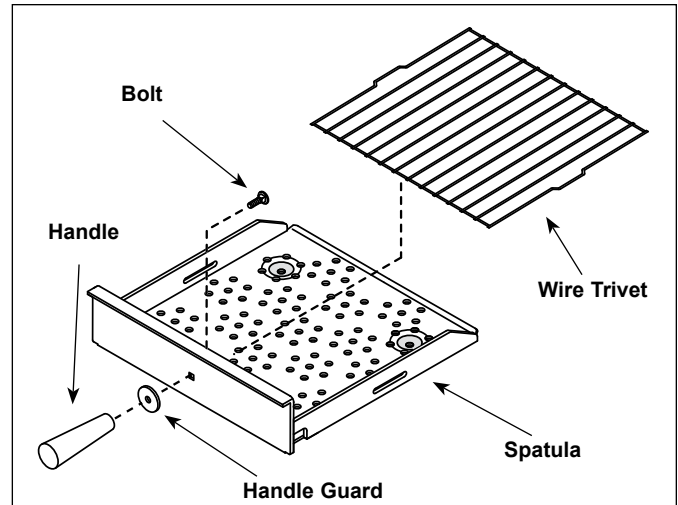

Figure 1. Assembling Handle—MS-150/250 Only
6. **MS-150/250 Models:** Assemble the Guard and Mounting Bolt to the Spatula as shown in Figure 1.